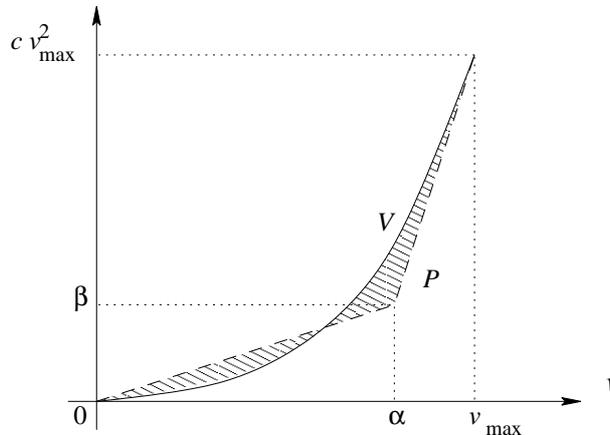

Figure 2: The quadratic function  $V$  and its PWA approximation  $P$ .
**Step 2:** Construct a piecewise affine (PWA) approximation  $P$  with 2 regions of the friction force curve  $V : [0, v_{\max}] \rightarrow \mathbb{R} : v \mapsto v^2$  as follows. We want a perfect match for  $v = 0$  and  $v = v_{\max}$ . This implies that we still have two degrees of freedom, i.e., the coordinates  $(\alpha, \beta)$  of the middle edge point of the PWA curve (see Figure 2). Now determine  $\alpha$  and  $\beta$  such that the *squared* area between  $V$  and  $P$  (i.e., the squared area corresponding the hashed region in Figure 2) is minimized, or equivalently, such that